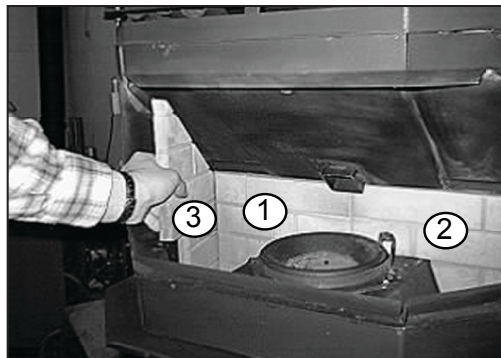

Figure 21.2
4. Place left side brick along left side of firebox, making sure chamfered (beveled) back edge of brick fits snugly next to rear brick. **Figure 21.2**.